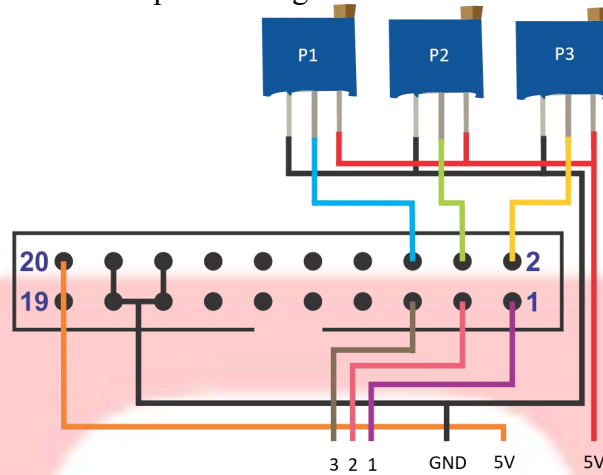

Figure 4: White-Line Sensor and Potentiometer's Connections
3. Connect the white-line sensor to 3 potentiometers and the following pins on the Arduino Uno development board as depicted in figures 4 and 5 and listed in the table below.